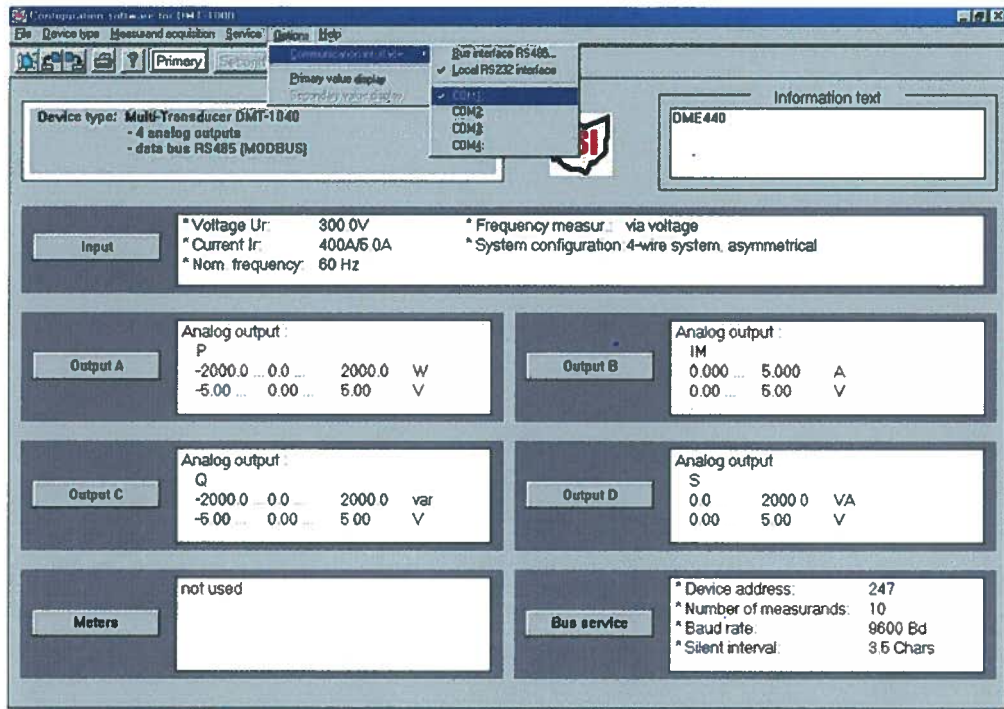

Figure 1
4. Next check to ensure that the communication parameters are set properly. Click on Options, then Communications Interface, then Local RS-232, and finally the COM port that you are using on your computer. (See Fig. 1)